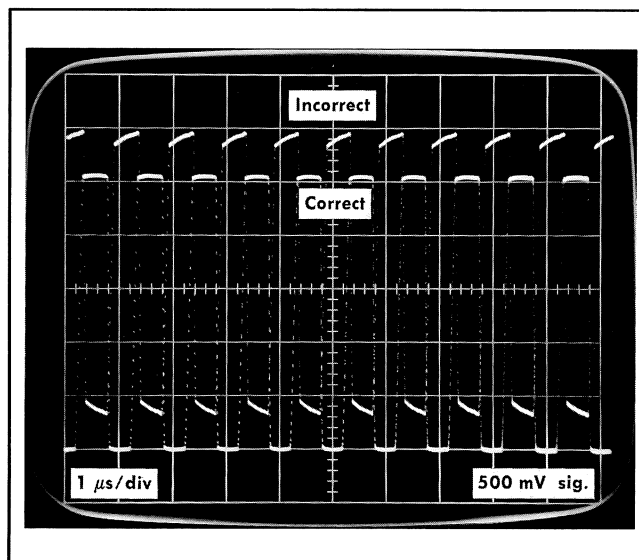

Fig. 4. Double exposure showing adjustment of R13, Transient Response control.
c. The display should be one cycle per division with the square wave top and bottom flat (parallel to a graticule line). Fig. 4 is a double exposure showing a correct adjustment of the Transient Response control, and an incorrect adjustment. The tilt of the square wave can be either rising or falling when R13 is not correctly adjusted.